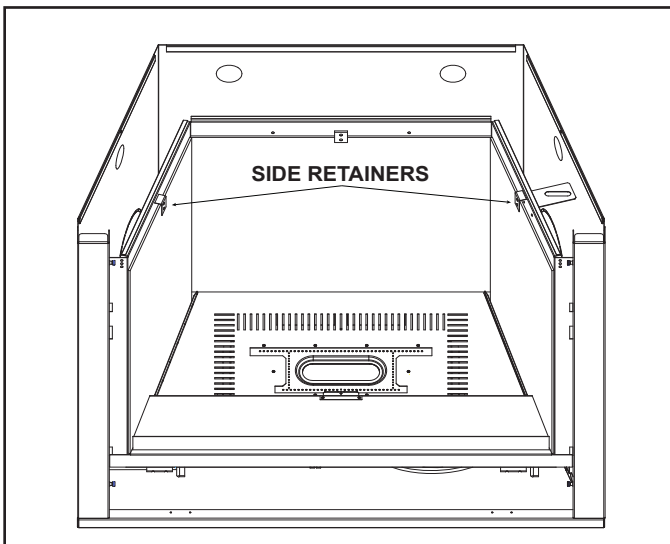

Figure 11.4 Install Side Retainers
3. Figure 11.4 shows the glass panels installed properly.